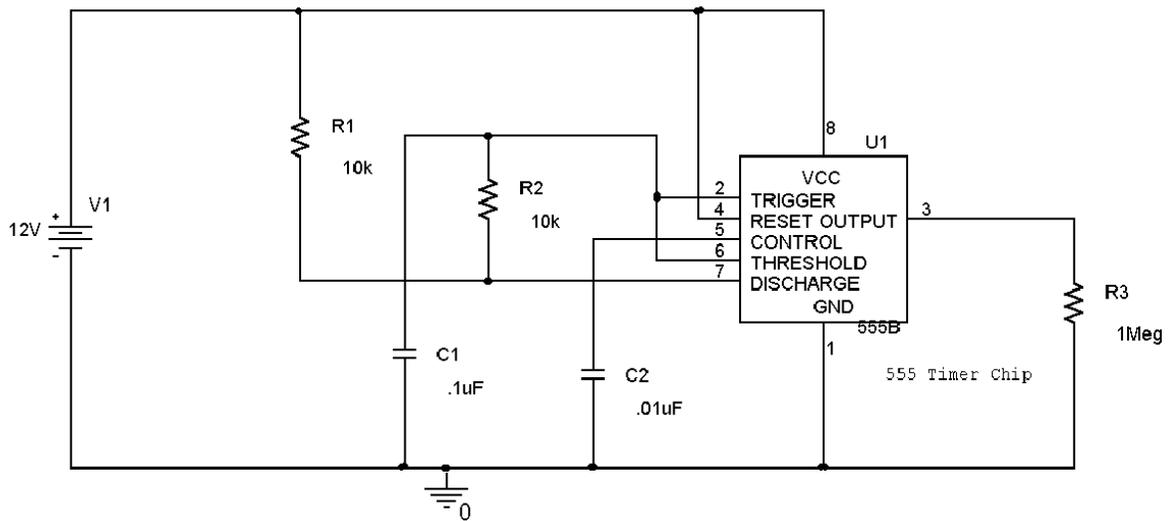

Figure D-4.
- Wire the circuit in Figure D-4 in PSpice.